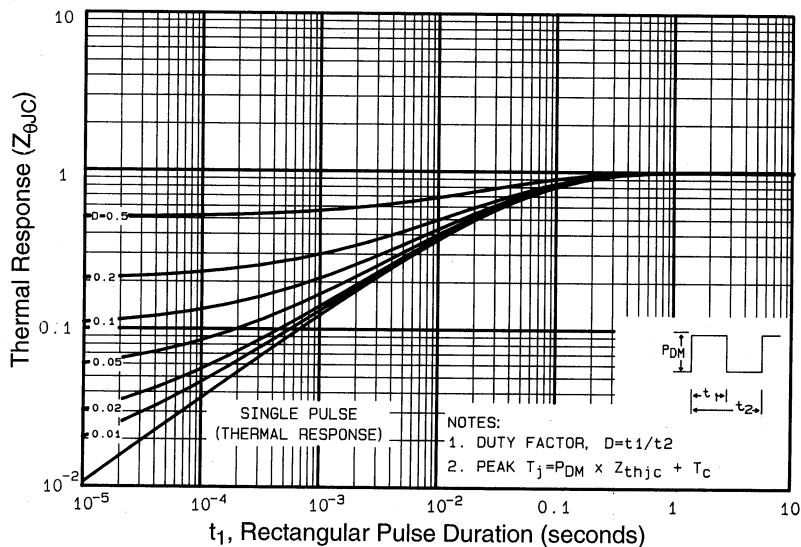

Fig 11. Maximum Effective Transient Thermal Impedance, Junction-to-Case
- ① Repetitive rating; pulse width limited by max. junction temperature. (See fig. 11)
- ② $V_{DD} = 25V$, starting $T_J = 25^\circ\text{C}$, $L = 34\mu H$